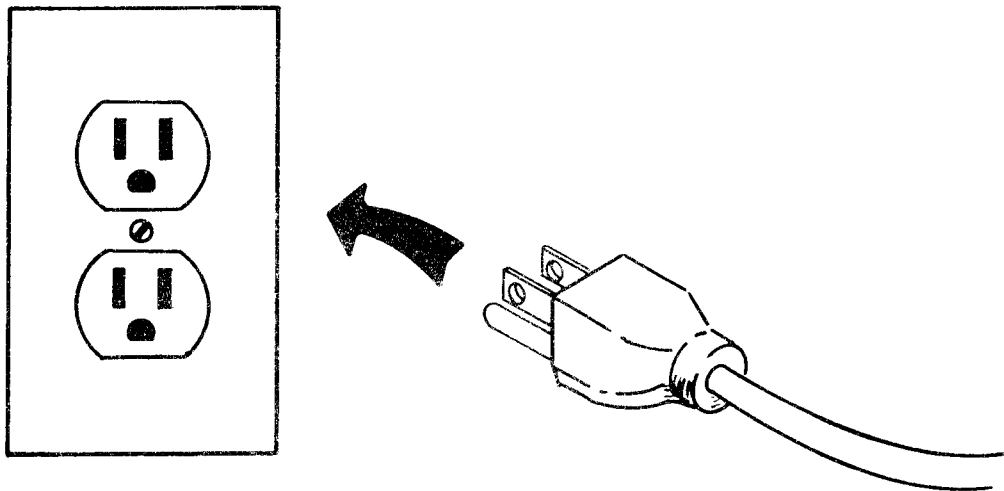

Figure 69. Plug Power Cord into Power Source
- d. Plug the power cord into a power source (see Figure 69).